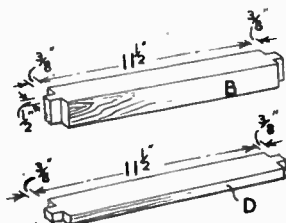

FIG. 5. THE RAILS
These are of varying lengths and those required are (B—four), (C—four) and (D—two). The pieces (B) and (C) are cut from 1½ins. square wood and are marked out as shown in Fig. 5. The only difference between (B) and (C) is that (B) is 12½ins. long overall and (C) is 15¾ins. Pieces (D) are cut from 1½ins. by ½in. material to the measurements